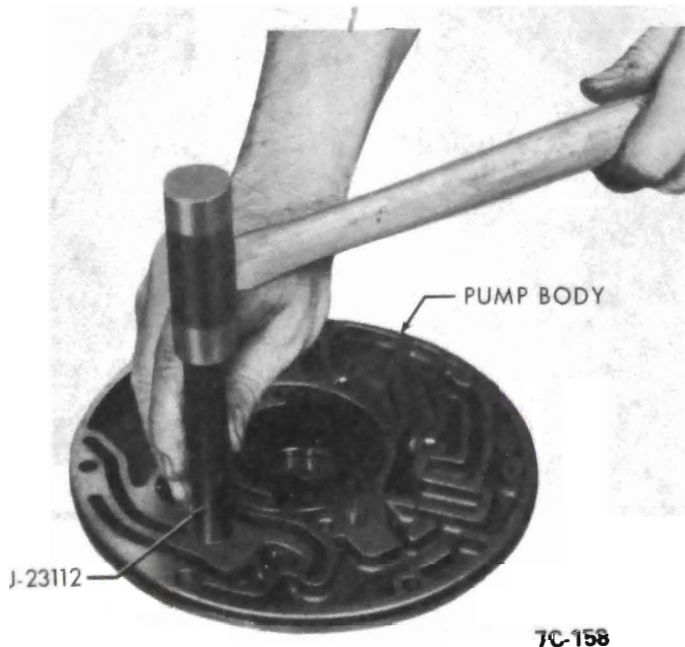

Figure 7C-94
seat is flush with face of pump body. See Figure 7C-94.
3. Assemble pump cover to pump body. See Figure 7C-82.
4. Install intermediate clutch piston inner seal and outer seal. See Figure 7C-81.